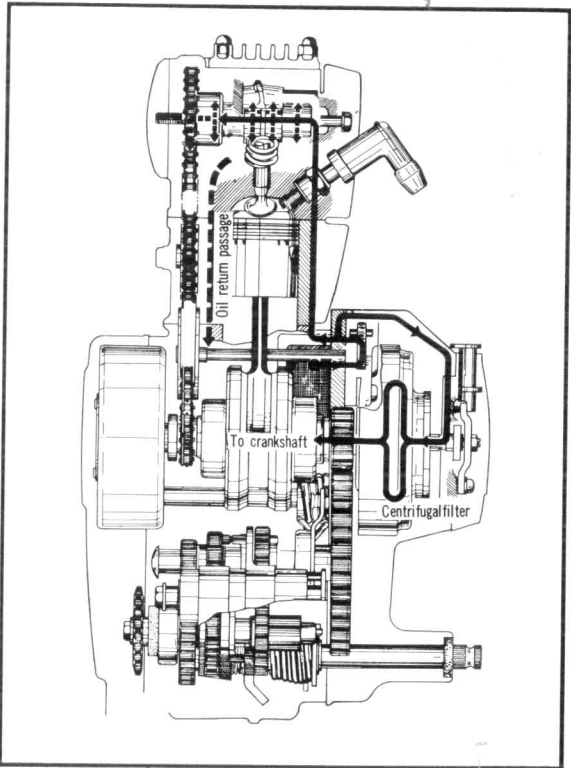

Figure 3-10. Pressure lubrication diagram
- (1) Right crankcase → passageway in the right crankcase cover → centrifugal filter → to lubricate the crankshaft and associated parts.
- (2) Right crankcase (upper part of the oil pump) → through the cylinder stud bolt (right lower side) → into the rocker arm side cover → sprayed from the four oil holes in the camshaft → to lubricate the respective sections of the cylinder head → into the oil return hole at the lower end of the exhaust valve and returns to the crankcase. The oil that passes through the camshaft lubricates the cam chain and returns to the crankcase. In this way, the lubrication of the engine is performed by the two oil routes and the oil spray in the crankcase. (Fig. 3-10)